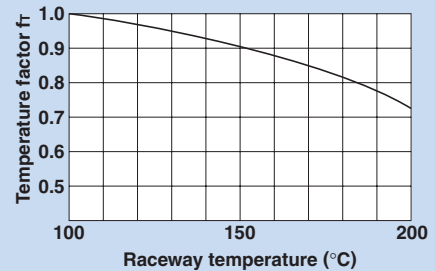

Fig. 2
- fT : Temperature factor (see Fig. 2)
If the temperature of the environment surrounding the operating LM Guide exceeds 100°C, take into account the adverse effect of the high temperature and multiply the basic load ratings by the temperature factor indicated in Fig. 2. In addition, the selected LM Guide must also be of a high temperature type.